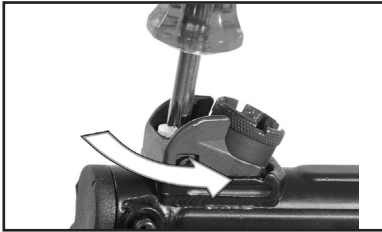

Fig. 17 – Loosen screw
1. Loosen screw by turning counter-clockwise with Phillips-head screwdriver (Fig. 17).